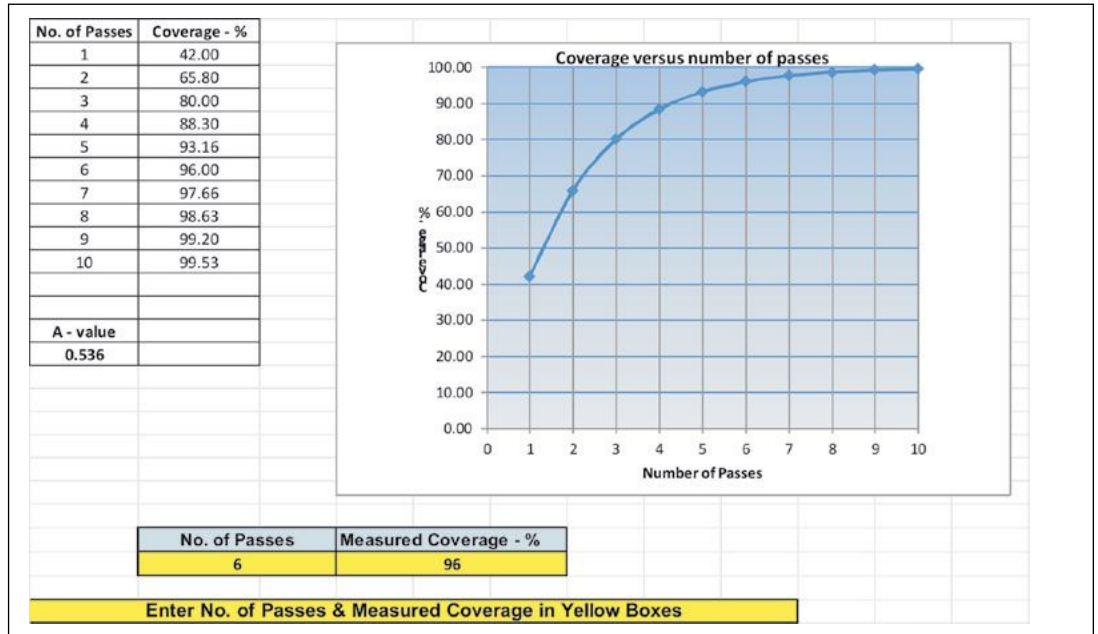

Fig.6. Coverage Prediction after one coverage measurement at six passes.
The value derived using equation (5) is then substituted into equation (1) using $t = 1$ to derive C_1 . This derived value of C_1 for the 'required value' is then used in the Coverage Predictor program. As an example: if coverage after 6 passes was measured to be 96% then substitution in (5) would give that $A = 0.536$. Substituting that value into equation (1) with $t = 1$ would give that $C_1 = 42\%$. Substituting $C_1 = 42\%$ into the Coverage Predictor program would produce the results shown as fig.6 on page 32. From that it is predicted that **8 passes** would give 98% coverage – rather than the 6 passes which gave 96%. Fig.6 shows Sheet 2 of the modified Coverage Predictor program that has carried out the calculations automatically.